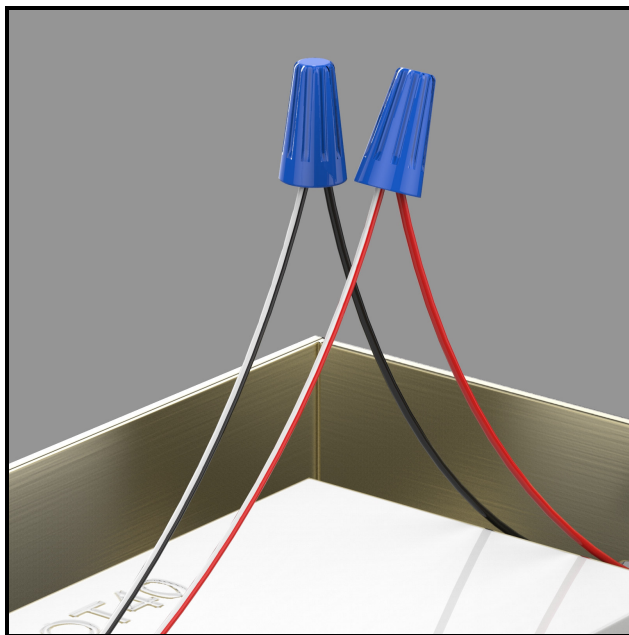

Figure 8
- Detail view shows the striped wiring connecting to the second driver. (Figure 8)